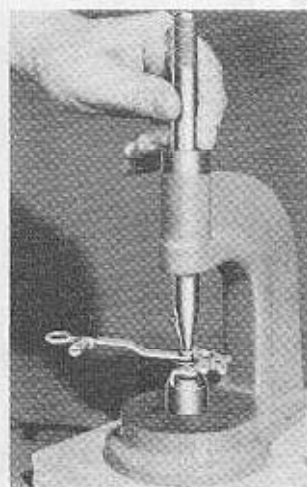

Fig. 23
**32** Assemble following parts, using #9359-D guiding fixture, #9579-B riveter, #9579-C and #9579-D anvils as shown in Fig. 23. Be sure rivet is installed so parts held work together freely:
- (1) 67-9548 Lever—Air shutter